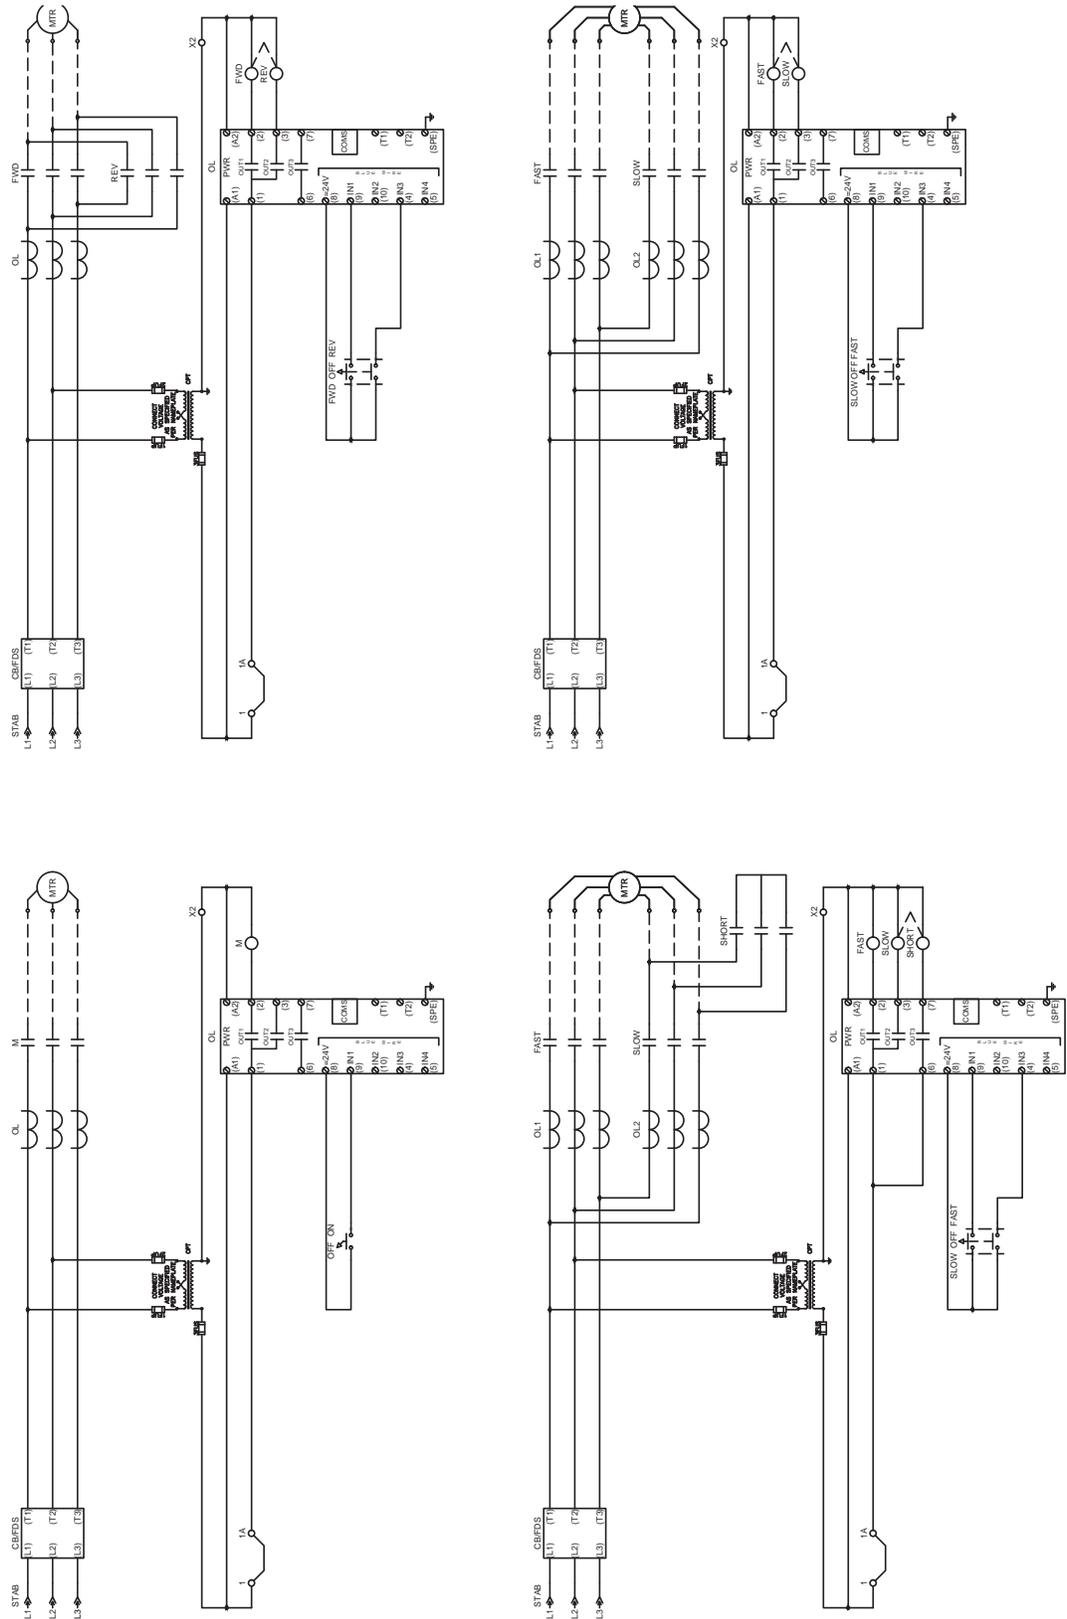

Figure 4
### v. MAINTAINED SELECTOR SWITCH (SS)/MAINTAINED BITS (see Figure 4):
### vi. MAINTAINED SS/MOMENTARY BITS (see Figure 4):